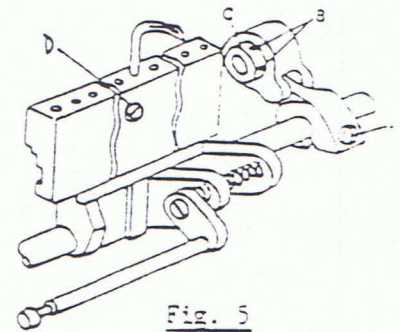

Fig. 5
- 7) Distance of looper to the needle (Fig.5)
Loosen screw A Fig. 5 for this adjustment as looper holder can be moved front and backward. Tighten screw A firmly.
To adjust this, loosen screw B Fig.5 and relocate position of eccentric against main shaft. Tighten screw A securely.
To adjust this, loosen screw D Fig.5